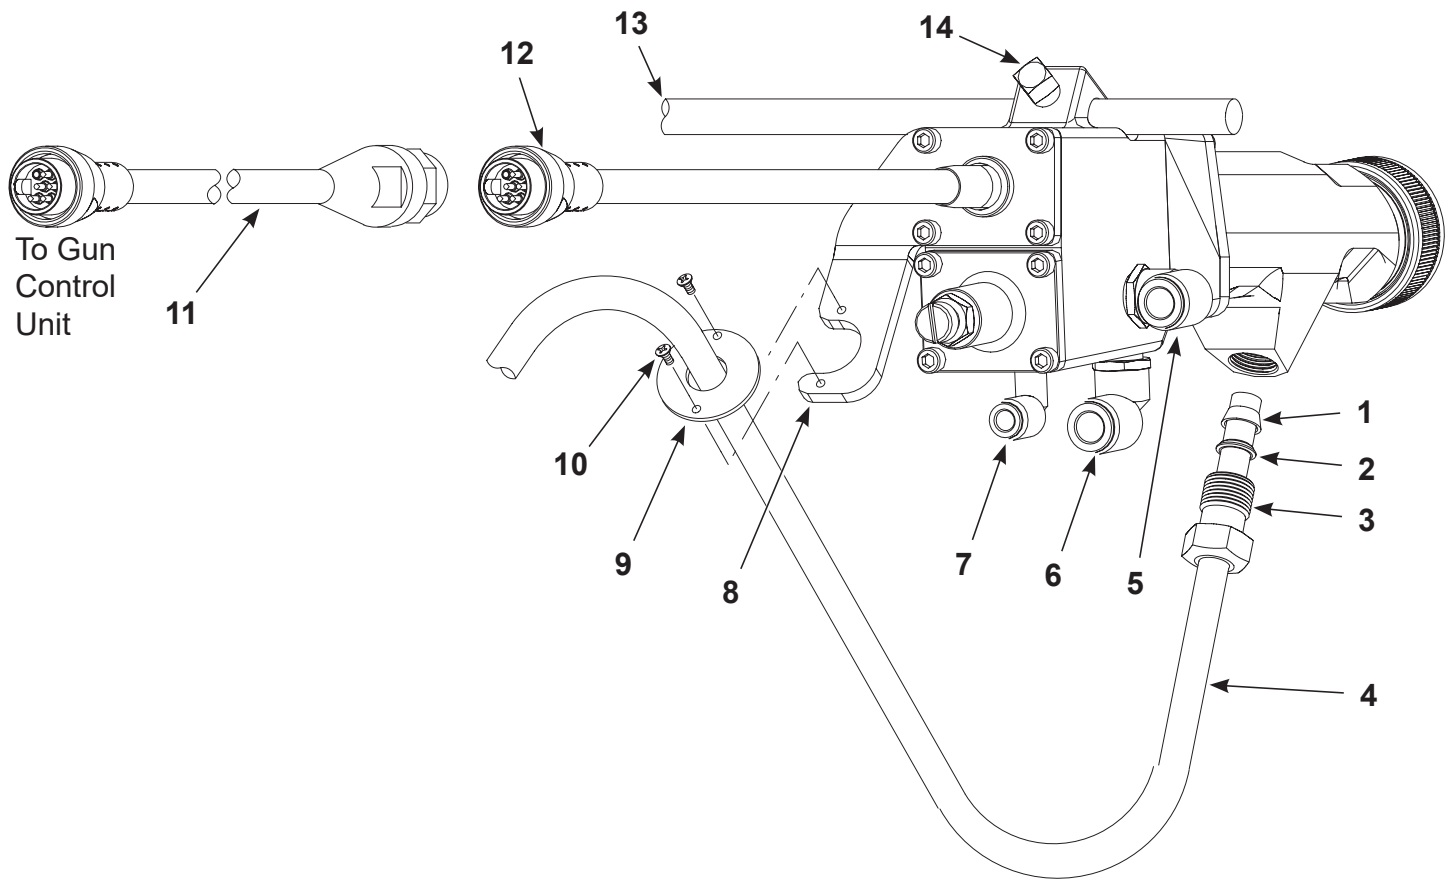

Figure 3-2 Typical Spray gun Installation
See Figure 3-2. Secure the spray gun to a 1/2 in. mounting bar with the square head set screw (14).
See Figure 3-2. Connect atomizing, horn, and trigger air tubing to the spray gun as follows:
See Figure 3-2 and Figure 3-3.
Refer to Figure 3-2. Connect the 50 ft extension cable (11) to the gun cordset. Connect the opposite end of the extension cable to the receptacle labeled GUN OUTPUT on the rear panel of the gun control unit.